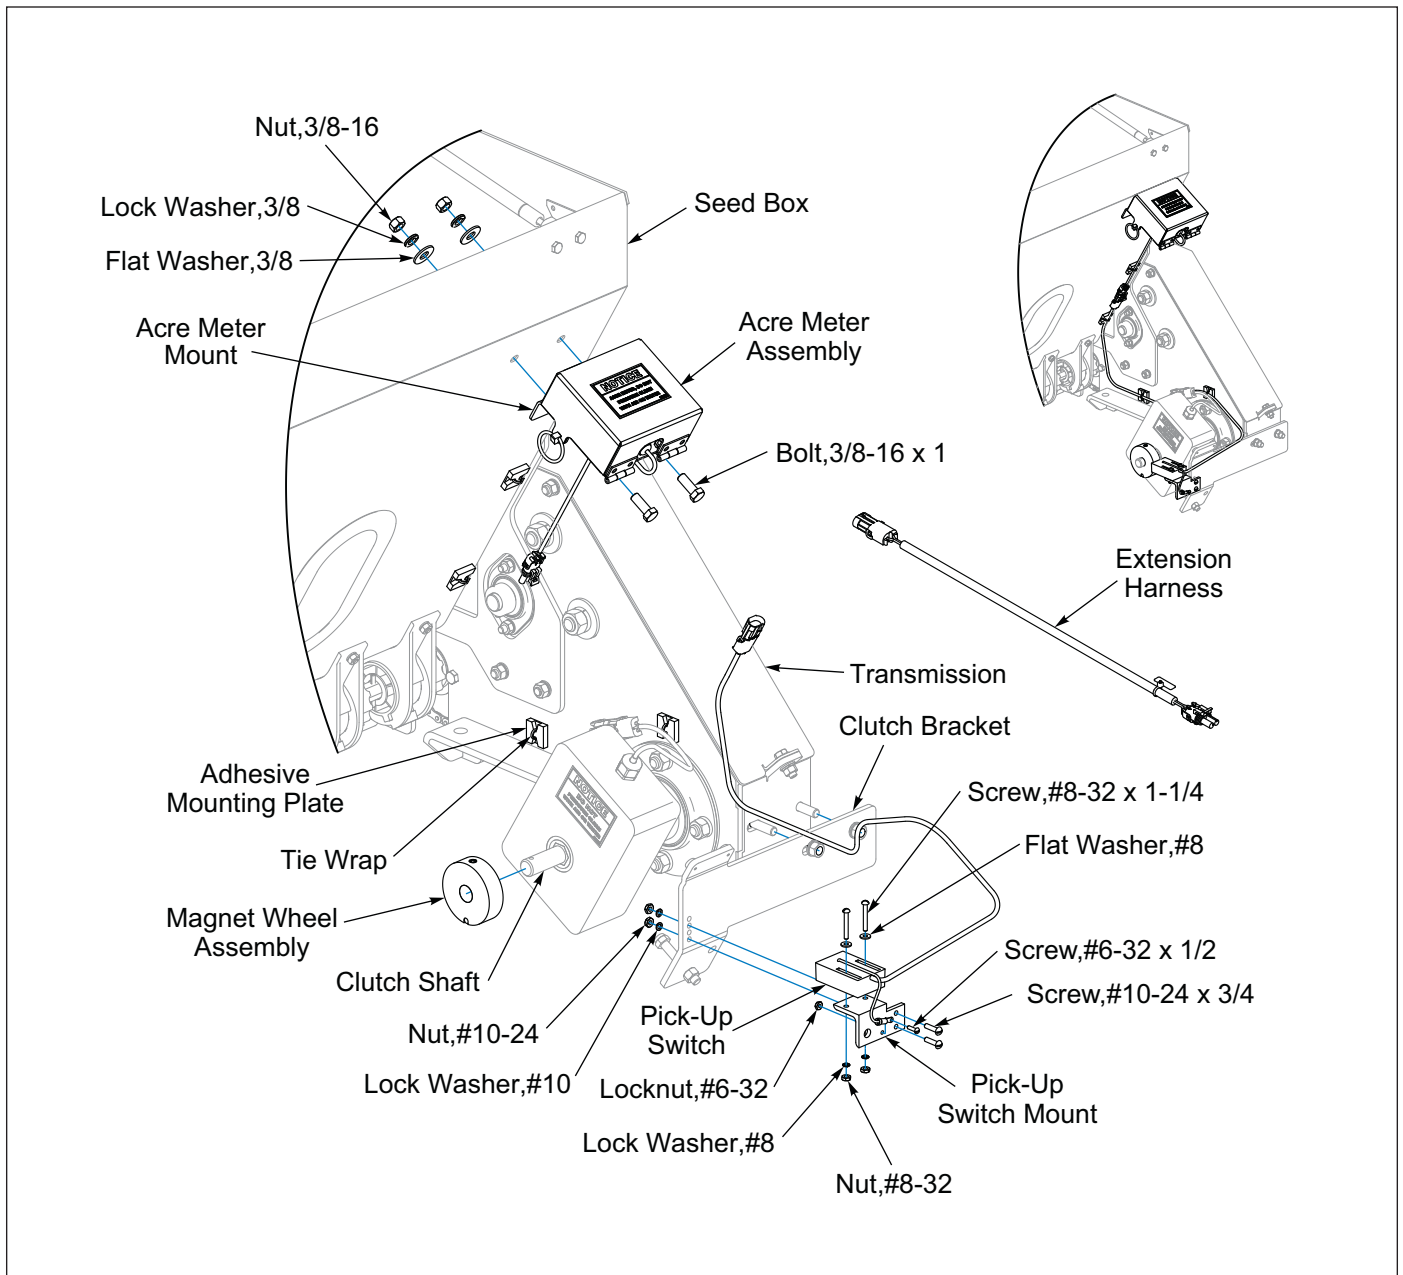

Figure 2-26: Magnetic Wheel
2. Attach the Acre Meter Assembly to the Seed Box with 3/8-16 x 1 Bolts, Lock Washers and Nuts. **See Figure 2-26.**